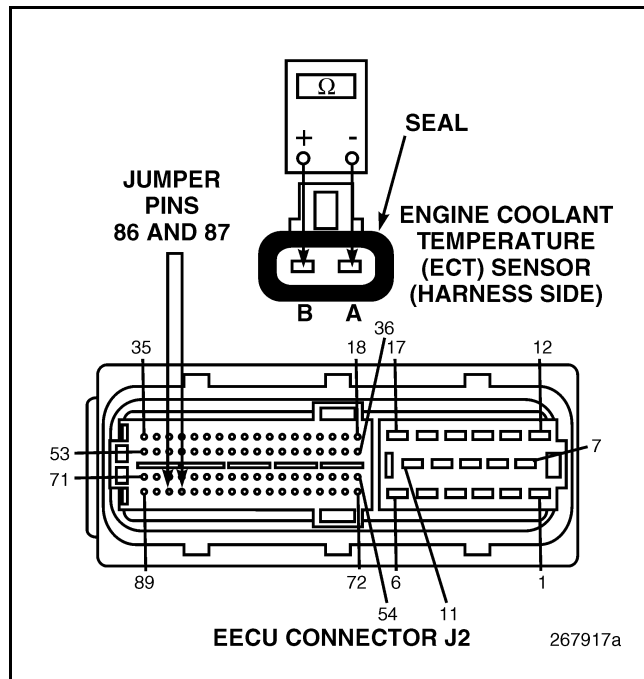

Figure 152
4. Connect a jumper between EECU harness connector J2 pins 86 and 87 (see Figure 152).